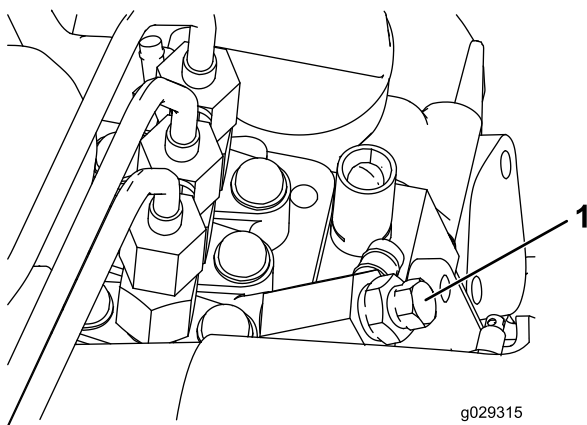

Figure 30
3. Open the air-bleed screw on the fuel-injection pump (Figure 30).